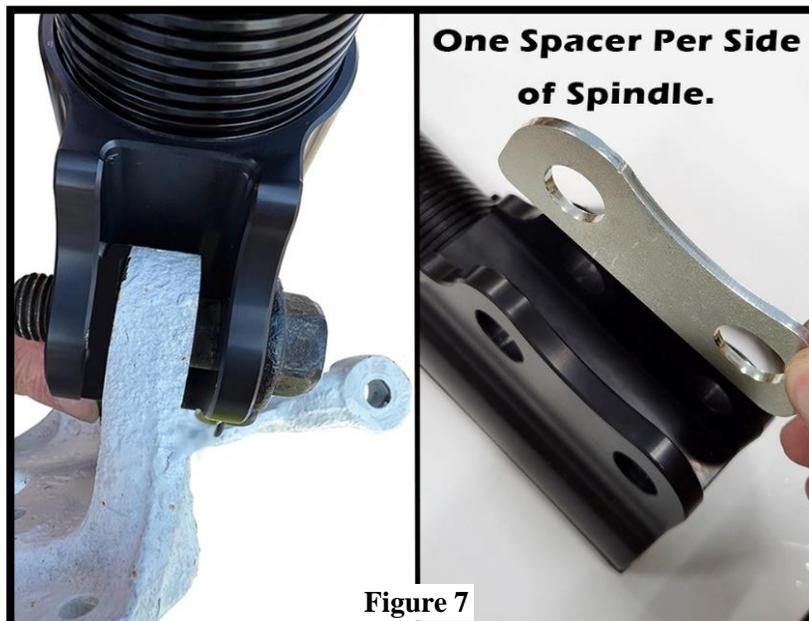

Figure 7
12. Position the spindle knuckle into the bracket on the strut. '79-'93 Fox body spindles have two different width spindles. QA1 strut mounts are wide to fit the early and 4 cyl. spindles. If installing on the narrow V8 or SN95 spindles, use the included spacers on each side of the spindle to fill the gap. (Figure 7)